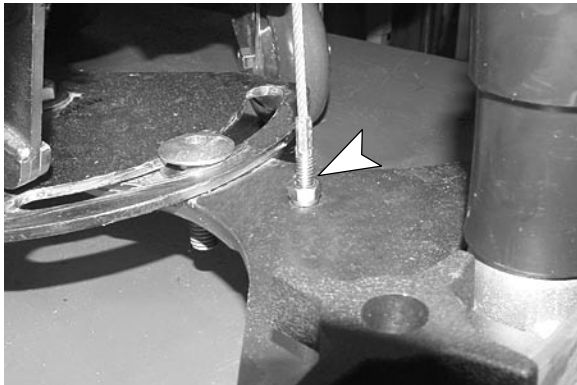

Fig. 15
13. With squeegee down, adjust the squeegee lift cable so that it is stress free as you swivel the squeegee assembly from side to side, 7/16" wrench is required (Figure 15).